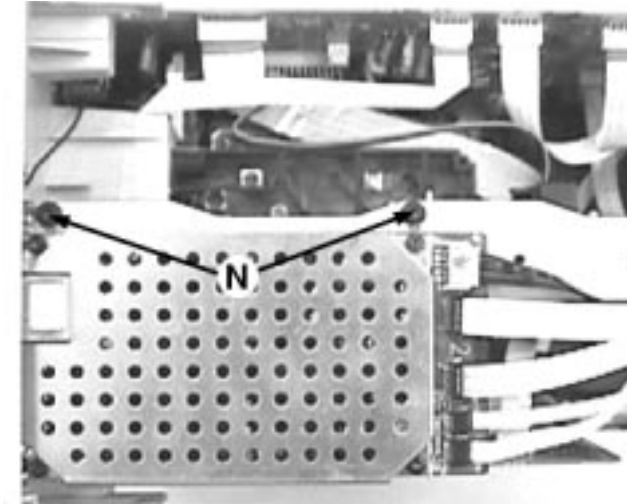
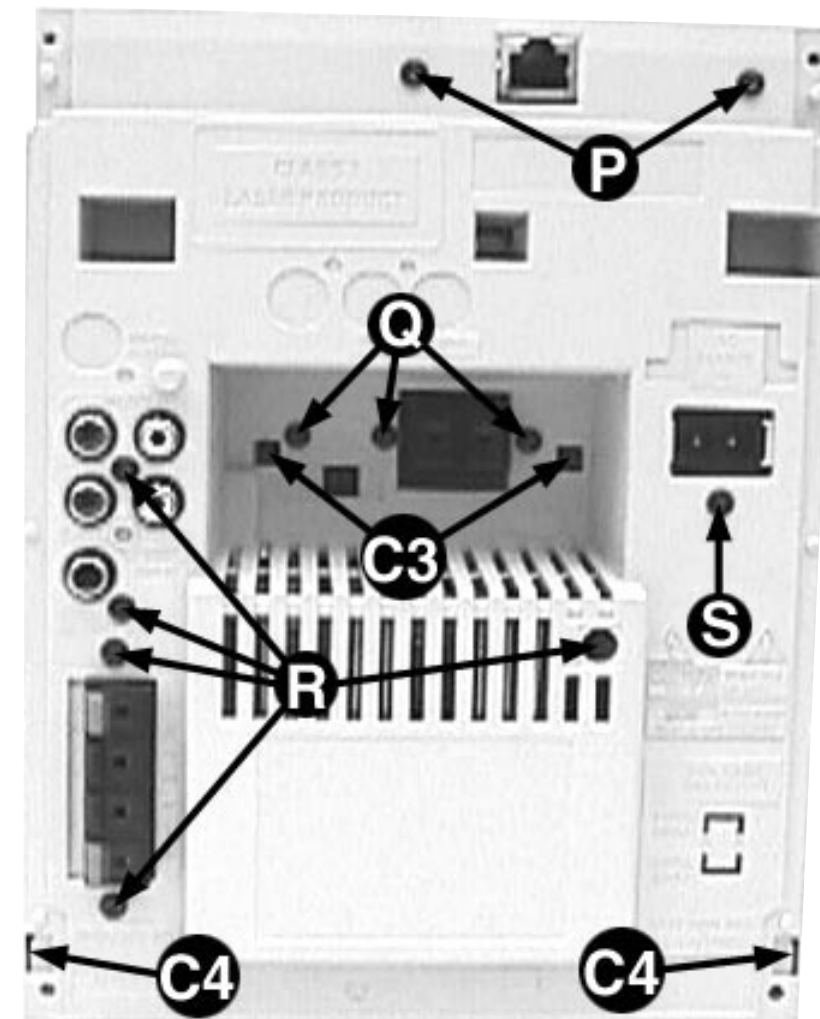

Figure 14
Figure 15
- 1) Loosen 2 screws N (see Figure 14) and 2 screws P (see Figure 15) to remove the Internet Audio Module and the Bar (pos 261).
- 2) Loosen 3 screws Q and 2 catches C3 (see Figure 15) to remove the Tuner Board assembly.
- 3) Loosen 1 screw S (see Figure 15) to free the Mains Socket Board from the Panel Rear (pos 256).
- 4) Loosen 5 screws R and 2 catches C4 (see Figure 15) to remove the Panel Rear (pos 256) by sliding it out towards the rear.